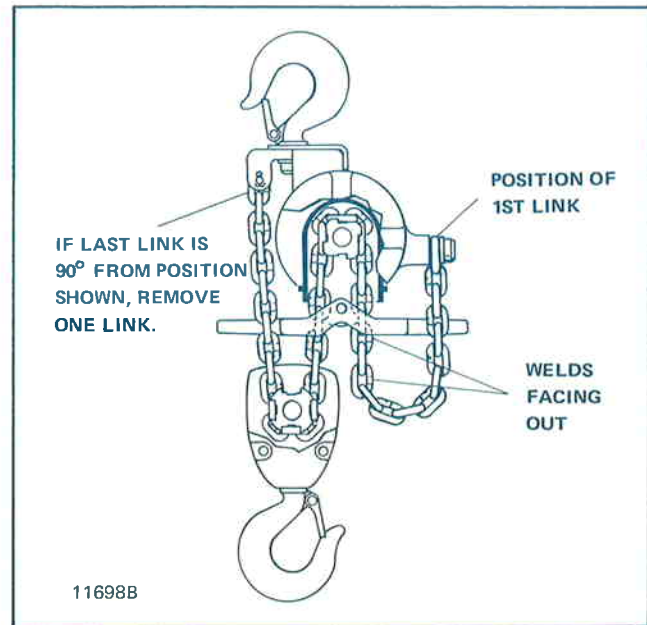
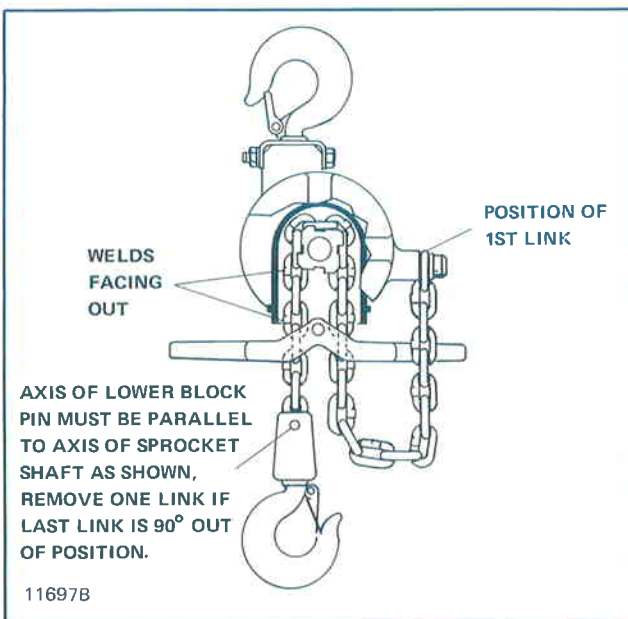

Figure 7-17. Installing Double Reeved Load Chain (3/4 and 1 Ton Models).
FIGURE 7-16. Installing Single Reeved Load Chain (1/4, 3/8 and 1/2 Ton Models).
(1) To install roller type load chain, first temporarily install connecting link on tail end of load chain. Then, with the air off, brake cover removed, and brake shoes locked in "open" position (with wedge between control lever and hoist body), turn brake wheel in "hoist" direction and feed chain in through lever control into chain sprocket. Once chain is over sprocket, brake cover can be replaced, hoist connected to air, and the chain run through hoist under power until sufficient chain has been run through to allow tail end to be attached to boss on side of frame with chain anchor. On single reeved hoist, attach lower block to load end of chain. On double reeved hoist, run lower block assembly onto chain and attach load end of chain to lug suspension bracket.
(2) When installing coil chain on the hoist, make sure the weld on the second link faces "out" or away from the sprocket. (See Figures 7-16 and 7-17.) Now, with the air off, brake cover removed, and brake shoes locked in "open" position (with wedge between control lever and hoist body), turn brake wheel in "hoist" direction and feed chain in through lever control into chain sprocket. Continue to feed the chain through until approximately 15" to 16" hangs through the tail chain side of the hoist. Take the first link and swing it up (do not twist) (see Figure 7-16) to the frame boss and fasten in place. The rest of the chain can be pulled through, and then the lower block fastened in place (on single reeved hoist). On double reeved hoist, allow approximately 17" to 18" of chain to hang on the lifting direction side (Figure 7-17). Run the lower block assembly onto chain and swing (do not twist) the remainder of the chain up and attach to lug on suspension bracket. Remove wedge from between lever and frame and replace covers.
NOTE: Chain must not be twisted and link welds must be positioned as shown in Figure 7-17.